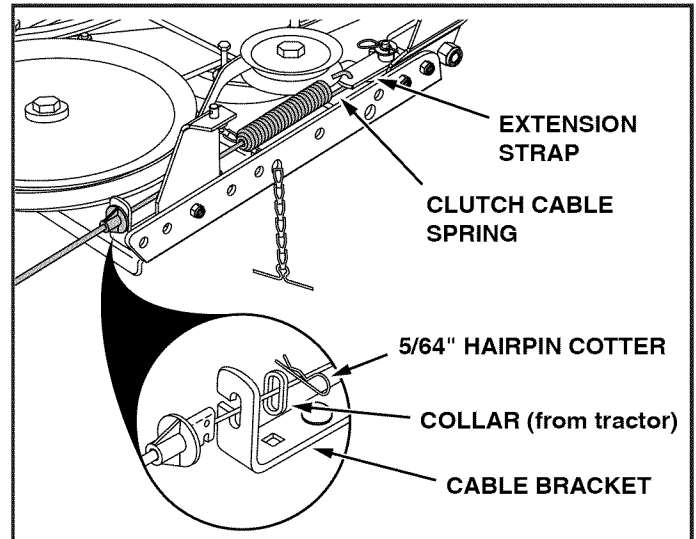

FIGURE 25
STEP 11: (SEE FIGURE 25)
STEP 1: (SEE FIGURE 25)